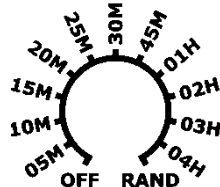

Figure 4
- a. Set delay timer to desired detonation frequency (Fig. 4).